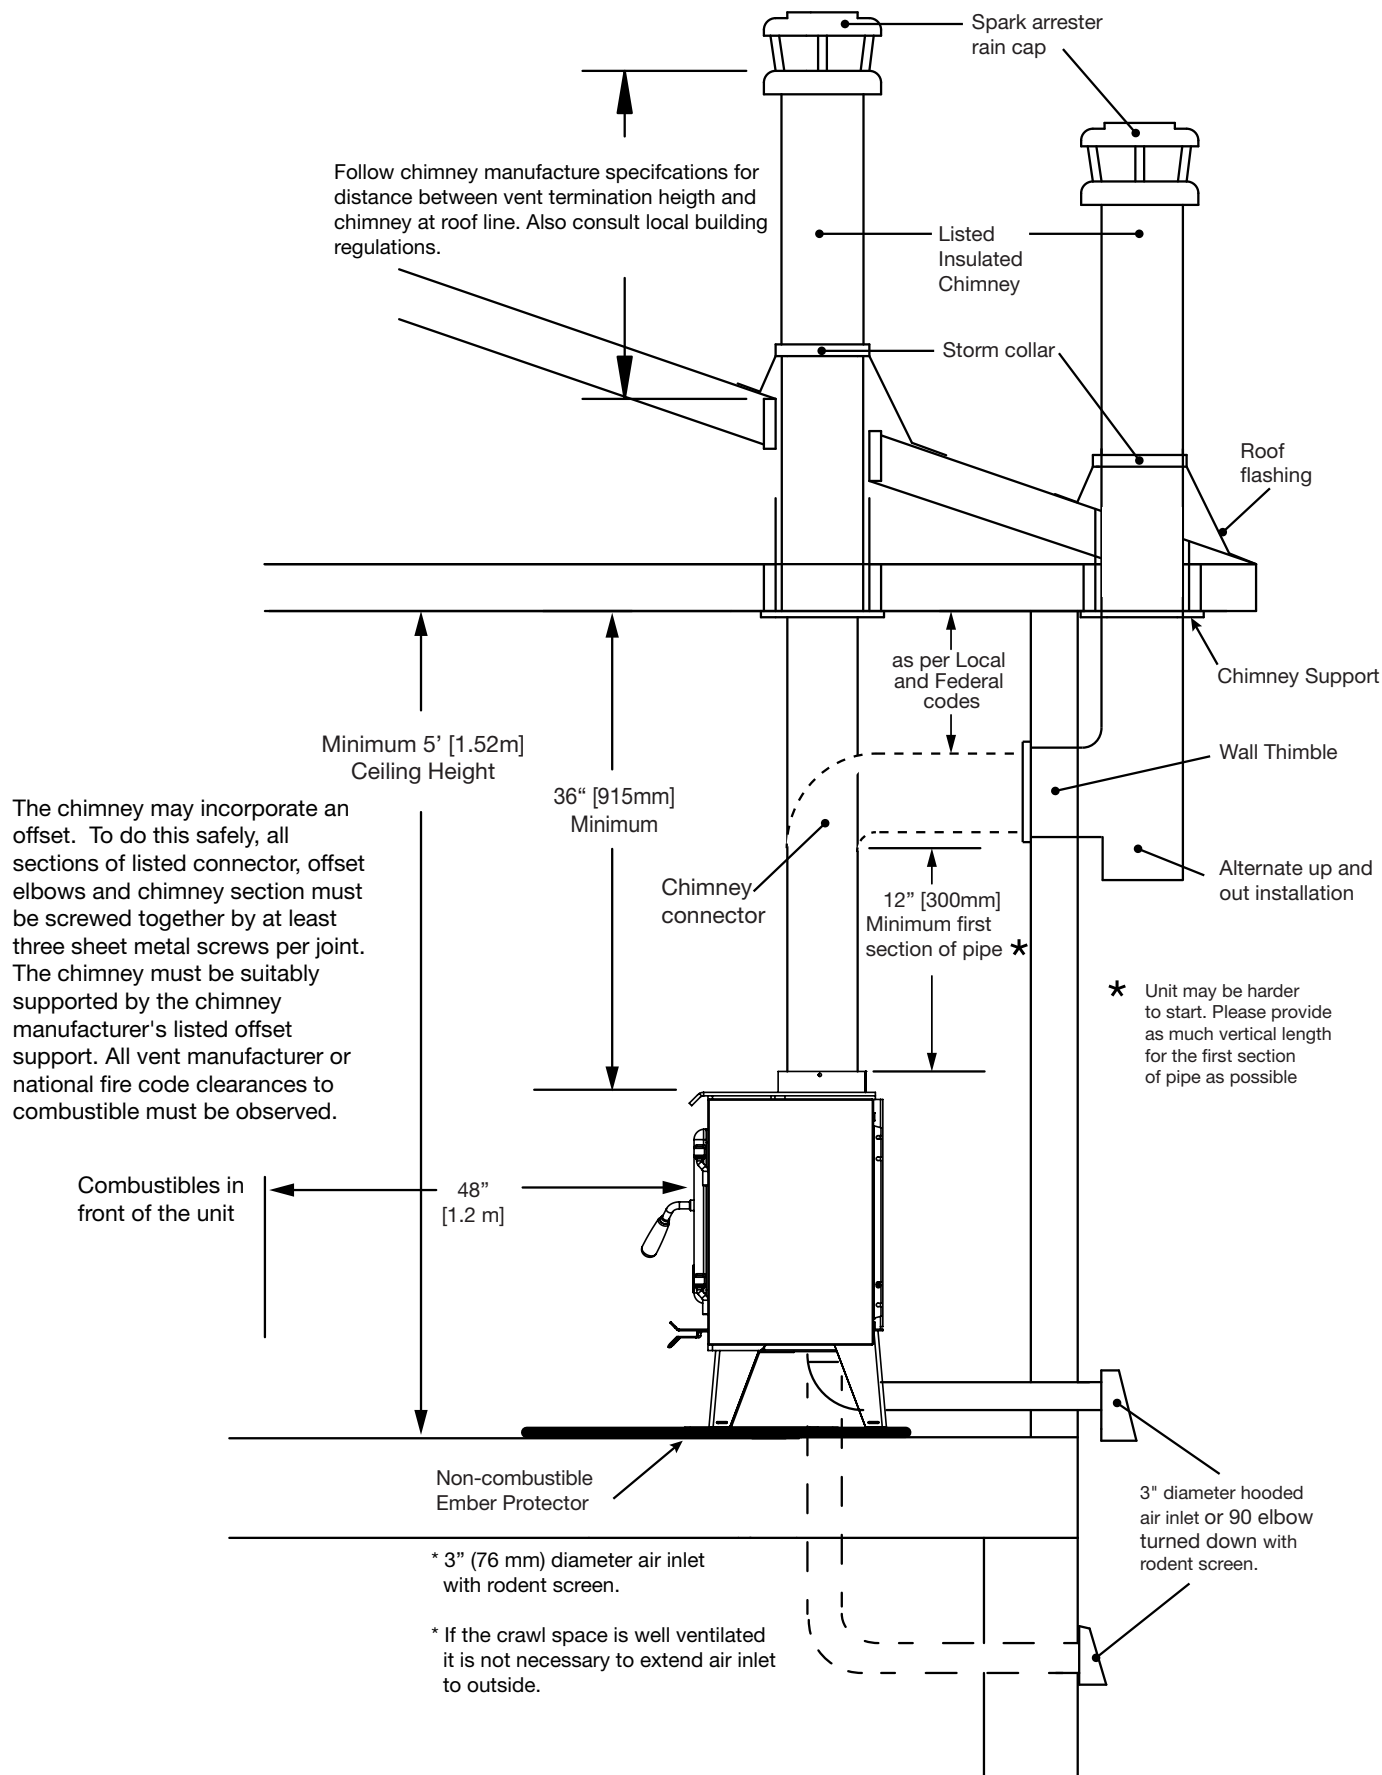

Figure 6: TN10 residential venting configuration.
- To draw outside air through the floor; Attach the outside air adapter to the underside of the stove. Mark then cut or drill a 3"(76mm) diameter or larger hole in the floor under the adapter. This hole must get its air from a ventilated crawl space or be extended with duct to the outdoors (Figure 6 on page 15. or Figure 7 on page 16